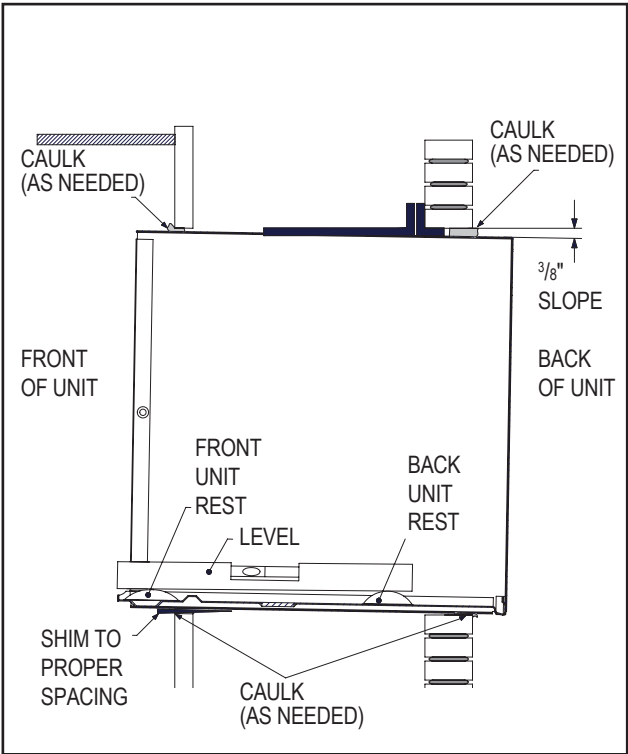

Figure C.4.2
**STEP 4.** The USC sleeve must also be installed with a downward tilt toward the outside of the building. If a level is placed so that it rests on the front and back unit rest as shown in Figure C.4.2, a properly installed unit provides a 3/8" slope to the outside of the building.
**A.** Check the anchor screw. There should be four (4) in the USC SLEEVE (two in each side).
**B.** Determine if the sleeve has a downward slope of 3/8 to the outside. See figure C.4.2 for further details.